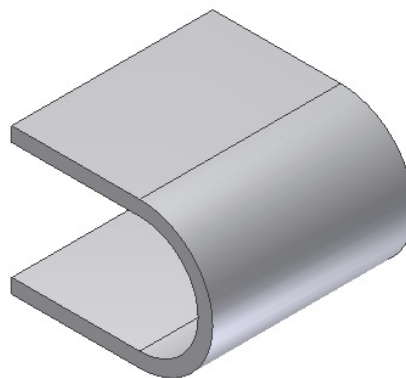

Figure 7-47 Base feature of the model
2. Exit the sketching environment and then extrude the sketch to a distance of 55 mm using the **Symmetric** option. The base feature of the model is shown in Figure 7-47.